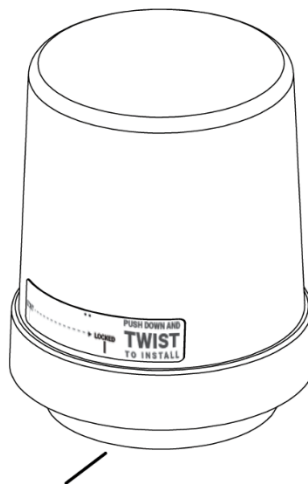

Figure 3 – Locked Position
8. Confirm the Controller is properly installed by checking if the "North Arrow" mark is in the "LOCKED" range on the device's label. (The travel for locking is about 1") **(See Figure 3)**
10. On power up (and until commissioned in a SimplySnap system), the TL7-HV(G) will immediately go to 100% dimming, then fade to 0% over 60 seconds, then back to 100%. If it does not dim, the device is not twisted into the proper position.